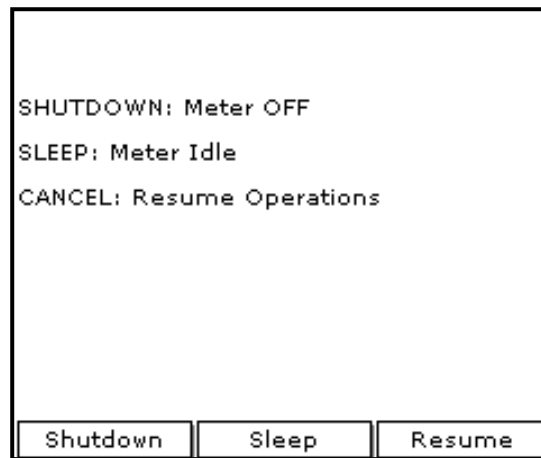

Figure 2: Shutdown Menu
1. To turn the PM880 AC off, press the red key for 3 seconds. The screen now appears similar to *Figure 2*. Press **[F1]** to shut down the PM880 AC.